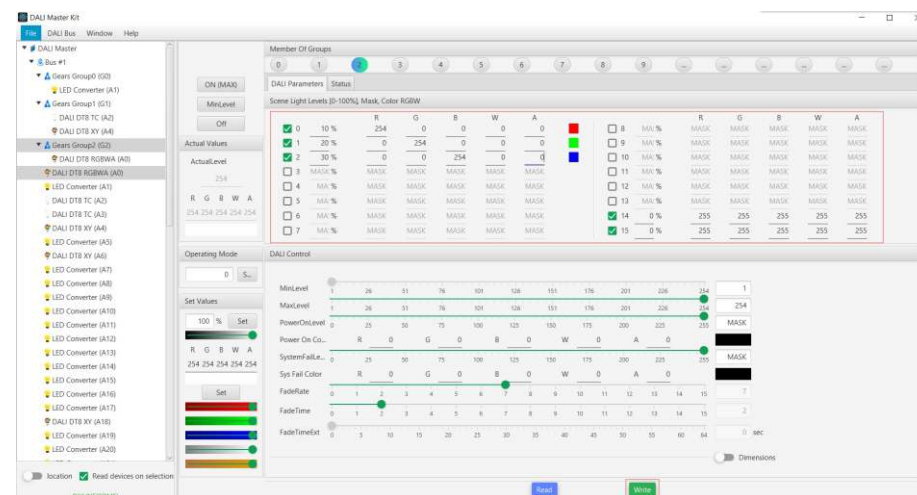

Figure 13 DALI Scene Configuration for DT8 RGB Device
4.5. For DT8 RGB device, brightness level, values of R, G, B (maximum 254) should be set for a DALI scene. After setting the parameters of the scenes, Click on “Write” button on bottom right of the window to write the scenes to the DALI device as shown in Figure 13.